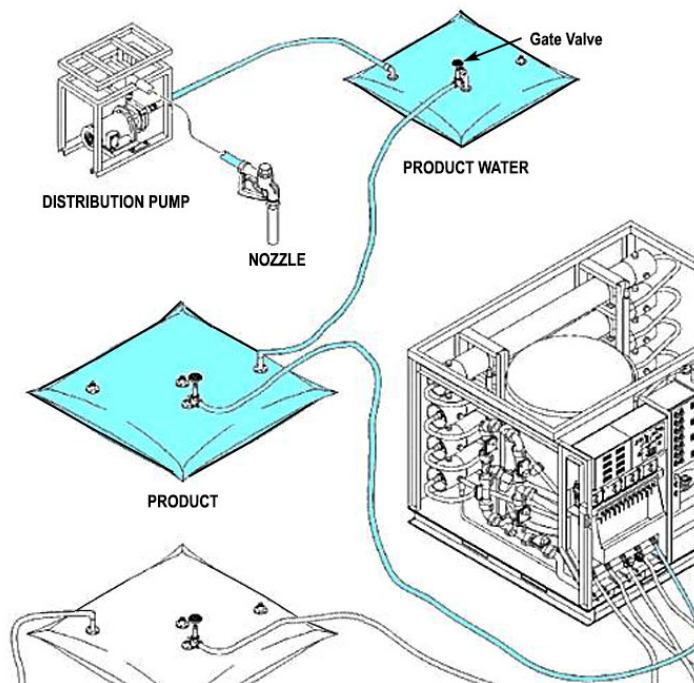

Figure 1-55. Product water tanks.
2. It is more important to fill product water tank #2 than product tank #1. This is because you want to be able to deliver as much water as possible to the user at any one time. When product tank #1 is full, open the gate valve (fig. 1-55) to allow water to flow to tank #2.